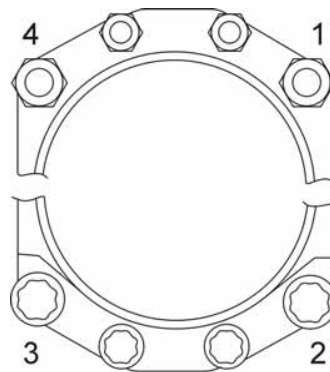

Figure 8-2. Sequence for Tightening Cylinder Basenuts
5. Install cylinders on the pads from which the nuts were removed in the previous step. Initially tighten cylinder hold-down nuts, to a torque of 300 in.-lbs. (25 ft.-lbs.) in the sequence shown in Figure 8-2.
8. Using the same sequence as described in steps 5. and 6., and shown in Figure 8-2, check all $\frac{1}{2}$ -inch nuts for tightness by bringing torque to 600 in.-lbs. (25 ft.-lbs.). Where $\frac{3}{8}$ -inch nuts are used, do no tighten more than 300 in.-lbs. (25 ft.-lbs.).
2. Install the cylinder on its mounting pad. Initially torque the $\frac{1}{2}$ -inch thru-studs to 300 in.-lbs. (25 ft.-lbs.) per sequence in Figure 8-2.
3. Retorque the $\frac{1}{2}$ -inch thru-studs to 600 in.-lbs.) 50 ft.-lbs.) per Figure 8-2.